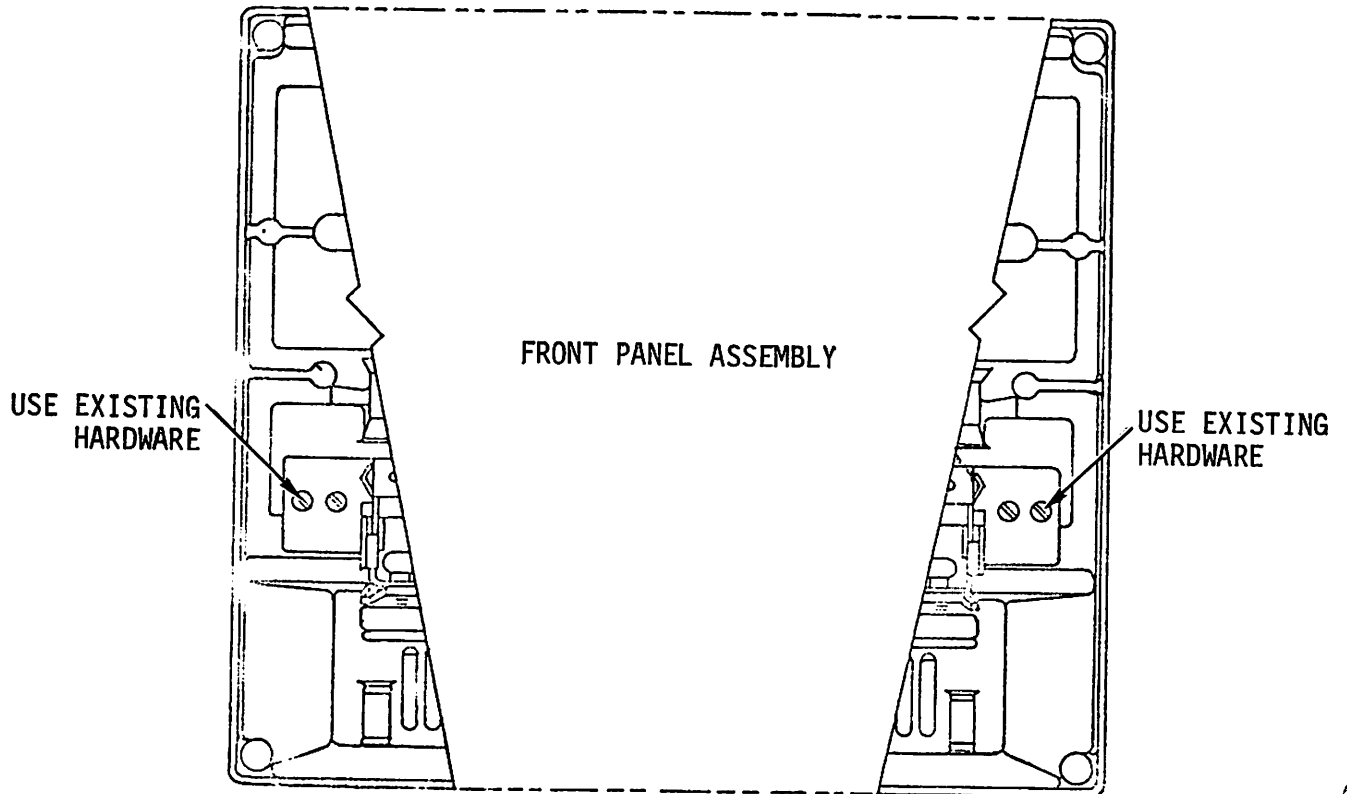

FIGURE 2
- b) Using existing hardware, secure one end of each 8 inch ground strap to the front panel assembly; secure the other end to the base plate. Refer to Figures 2 and 3.